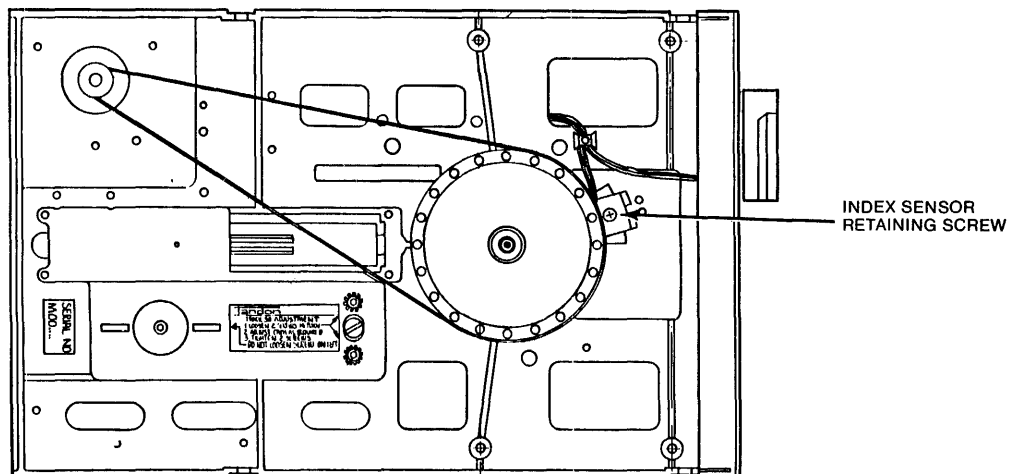

Figure 2-6
- A. Loosen the index sensor's retaining screw located on the underside of the chassis (see Figure 2-6).